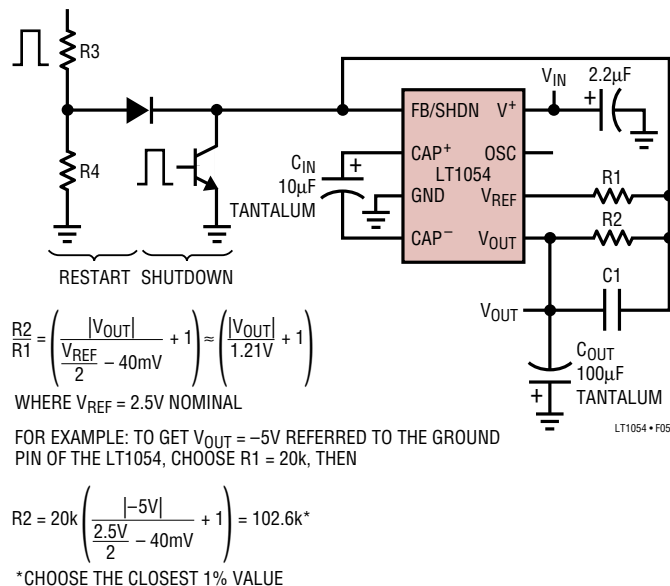

Figure 5
**FB/SHDN (Pin 1):** Feedback/Shutdown Pin. This pin has two functions. Pulling Pin 1 below the shutdown threshold ( $\approx 0.45V$ ) puts the device into shutdown. In shutdown the reference/regulator is turned off and switching stops. The switches are set such that both  $C_{IN}$  and  $C_{OUT}$  are discharged through the output load. Quiescent current in shutdown drops to approximately  $100\mu A$  (see Typical Performance Characteristics). Any open-collector gate can be used to put the LT1054 into shutdown. For normal (unregulated) operation the device will start back up when the external gate is shut off. In LT1054 circuits that use the regulation feature, the external resistor divider can provide enough pull-down to keep the device in shutdown until the output capacitor ( $C_{OUT}$ ) has fully discharged. For most applications where the LT1054 would be run intermittently, this does not present a problem because the discharge time of the output capacitor will be short compared to the off-time of the device. In applications where the device has to start up before the output capacitor ( $C_{OUT}$ ) has fully discharged, a restart pulse must be applied to Pin 1 of the LT1054. Using the circuit of Figure 5, the restart signal can be either a pulse ( $t_p > 100\mu s$ ) or a logic high. Diode coupling the restart signal into Pin 1 will allow the output voltage to come up and regulate without overshoot. The resistor divider  $R3/R4$  in Figure 5 should be chosen to provide a signal level at pin 1 of  $0.7V$  to  $1.1V$ .
The error amplifier of the LT1054 servos the drive to the PNP switch to control the voltage across the input capacitor ( $C_{IN}$ ) which in turn will determine the output voltage. Using the reference and error amplifier of the LT1054, an external resistive divider is all that is needed to set the regulated output voltage. Figure 5 shows the basic regulator configuration and the formula for calculating the appropriate resistor values.  $R_1$  should be chosen to be
REFER TO FIGURE 5